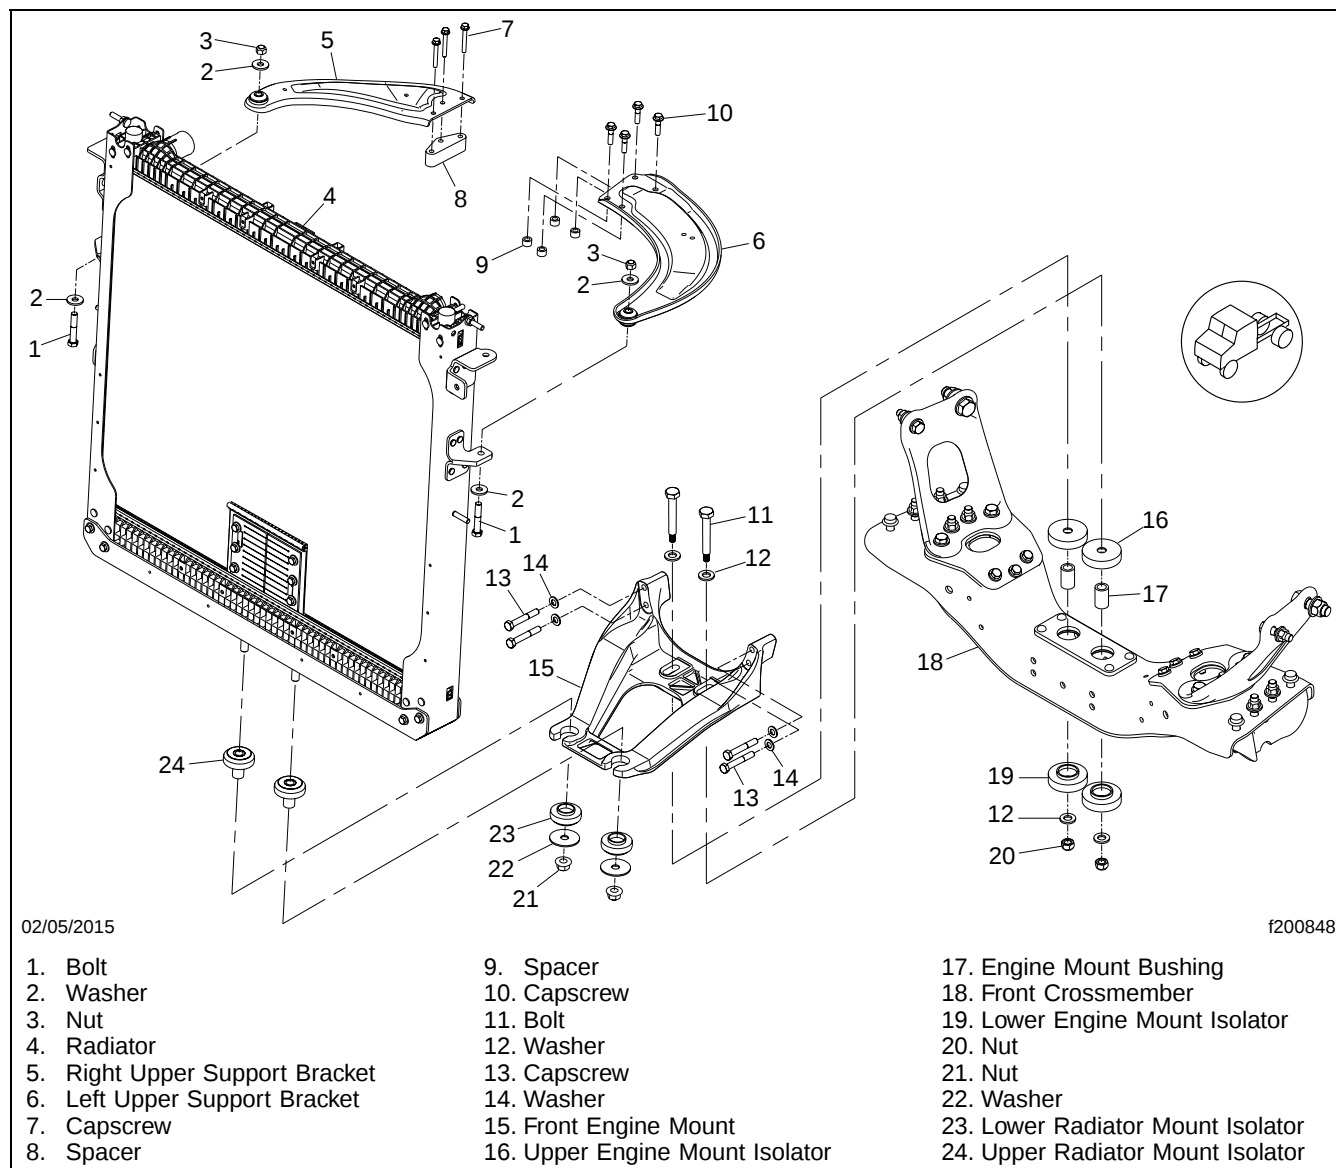

Fig. 5, Radiator and Front Engine Mount Installation
22. Remove the front engine mount fasteners at the crossmember. See **Fig. 5**.